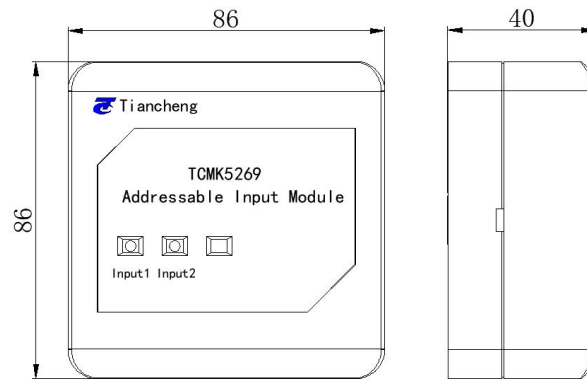

Figure 1. Outline diagram
1. The outline diagram of the module is shown in Figure 1